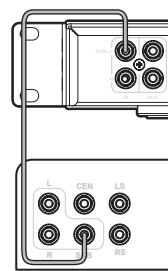

Fig. 5
**b. Use the LFE connection (applicable to all models) See Fig. 5:**